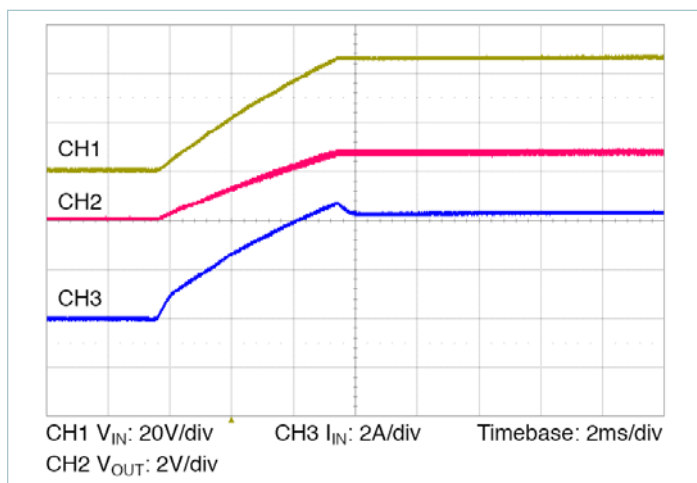

Figure 13 — Start up from application of V_{IN} ; VC pre-applied $C_{OUT} = 16000\mu\text{F}$
- **Normal operation (VC applied prior to V_{IN}):** In this case the controller is active prior to ramping the input. When the input voltage is applied, the VTM module output voltage will track the input (See Figure 13). The inrush current is determined by the input voltage rate of rise and output capacitance. If the VC voltage is removed prior to the input reaching 26V, the VTM may shut down.